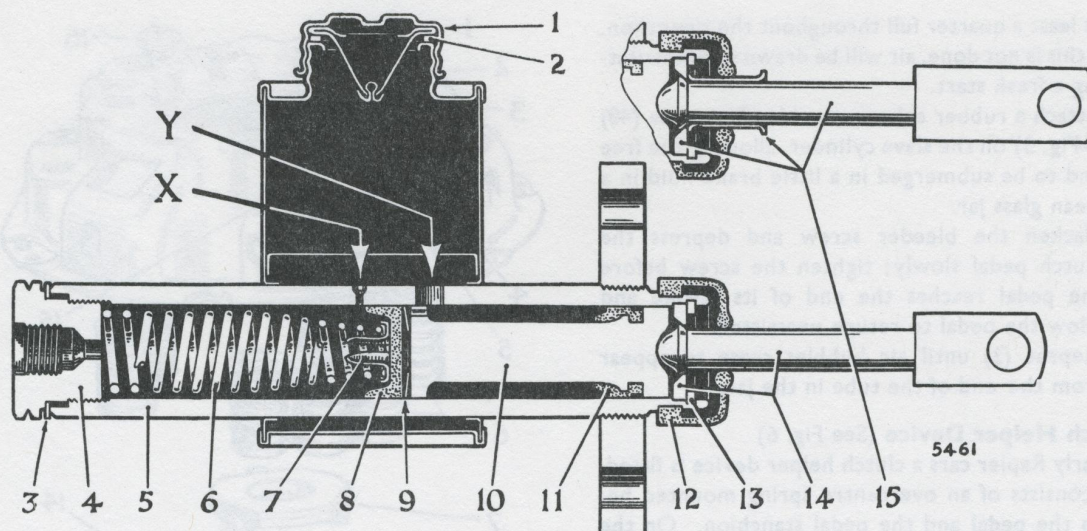

Fig. 4. Master cylinder, sectional view
This unit (Fig. 4) incorporates a fluid reservoir and a master cylinder. Directly in front of the main rubber cup (8), when the system is at rest, is a by-pass port (X) which ensures that the system is maintained full of fluid at all times, and allows full compensation for expansion or contraction of the fluid due to changes of temperature. It also serves to release additional fluid drawn into the cylinder from the annular space formed by the reduced skirt of the piston (10), through the small holes in the piston, after each application. If this additional fluid is not released to the reservoir through the
To dismantle (Fig. 4)